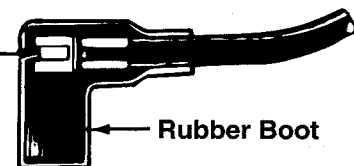

FIGURE 9.
2. Attach spark plug wire to spark plug. Make certain the metal loop on the end of the spark plug wire (inside the rubber boot) is fastened securely over the metal tip on the spark plug. See figure 9.